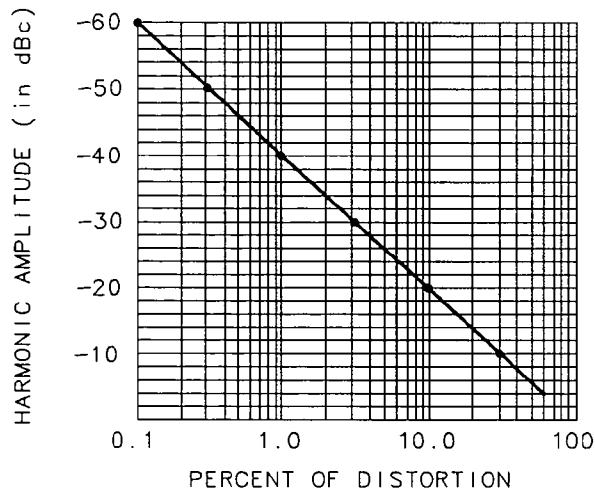
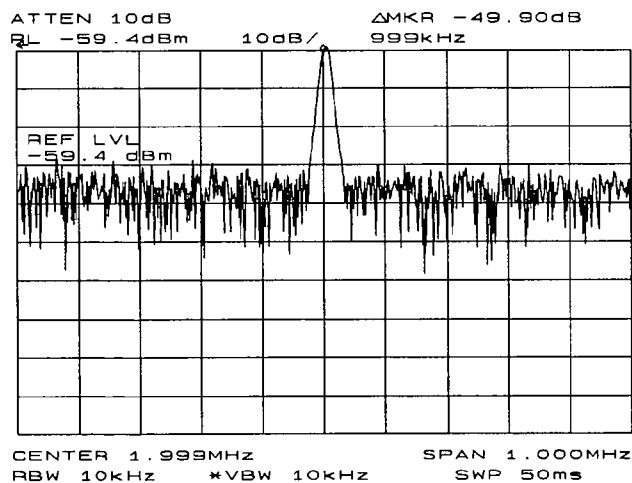

Figure 3-4. Percentage of Distortion versus Harmonic Amplitude
Figure 3-6. Second Harmonic Displayed in dBc
2. For greatest measurement accuracy, raise the peak of the fundamental to the reference level by pressing **PEAK SEARCH**, **MKR ->**, and then **MARKER -> REF LVL**. This is shown in Figure 3-2. In order to place a second marker on the second harmonic, set the peak threshold above the noise by pressing **PEAK SEARCH**, **MORE 1 OF 2**, and **PEAK THRESHLD**. Adjust the dashed line to a level above the noise using either the step keys or the knob. To activate a second marker, press **PEAK SEARCH**, **MARKER DELTA**, and **NEXT PK RIGHT**. This places the anchor marker on the fundamental, and a second marker on the peak of the second harmonic as shown in Figure 3-3. The difference in amplitude between the fundamental and second harmonic shown in the figure is approximately -50 dB, or 0.33 percent harmonic distortion (see Figure 3-4). To measure the third harmonic, press **NEXT PK RIGHT** again. Continue reading amplitudes and comparing them to Figure 3-4 for each additional harmonic you wish to measure. **PEAK EXCURSN** defines what is and is not a peak; the next-peak routines find the corresponding peak.
- To measure the second harmonic, press **MKR**, **MARKER DELTA**, **FREQUENCY**, and the step up **▲** key. This step retunes the spectrum analyzer center frequency to the second harmonic. Adjust the harmonic to the reference level. (Note that the **MARKER → REF LVL** function is not available in marker-delta mode.) This displays the amplitude of the second harmonic as shown in Figure 3-6. The difference between the second harmonic and the fundamental can be converted to a percentage of distortion using Figure 3-4. Again, units can be changed to volts in order to read the voltage ratio of the two signals.